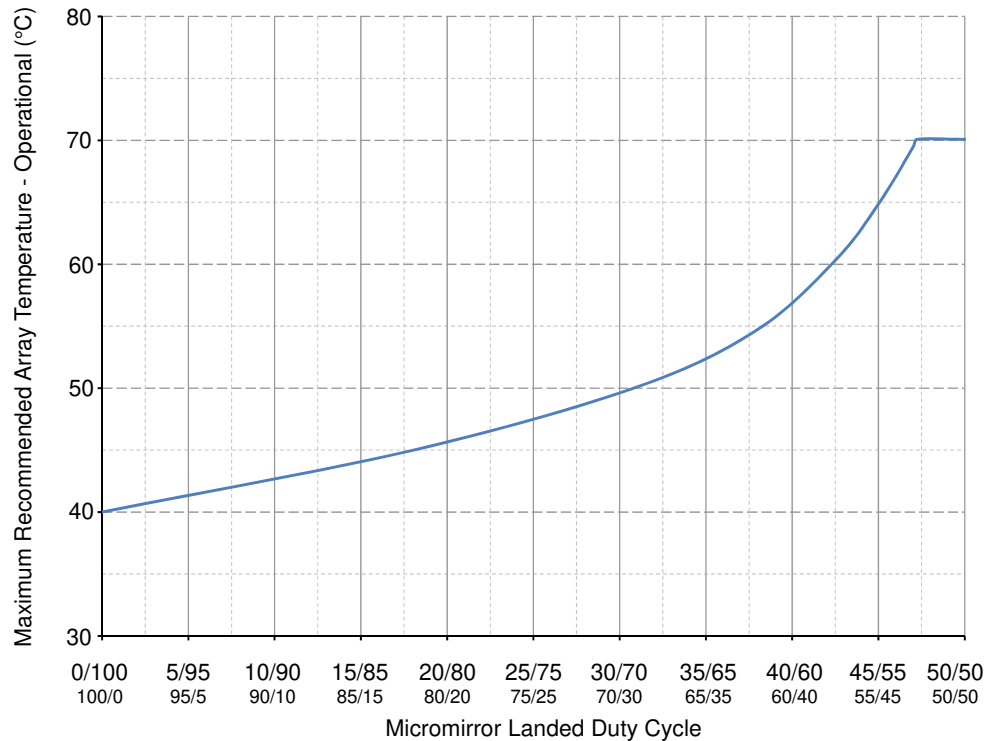

Figure 6-1. Maximum Recommended Array Temperature - Derating Curve
- (13) Per Figure 6-1, the maximum operational array temperature must be derated based on the micromirror landed duty cycle that the DMD experiences in the end application. See Section 7.7 for a definition of micromirror landed duty cycle.
- (14) Long-term is defined as the usable life of the device.
- (15) Array temperatures beyond those specified as long-term are recommended for short-term conditions only (power-up). Short-term is defined as the cumulative time over the usable life of the device and is less than 500 hours.